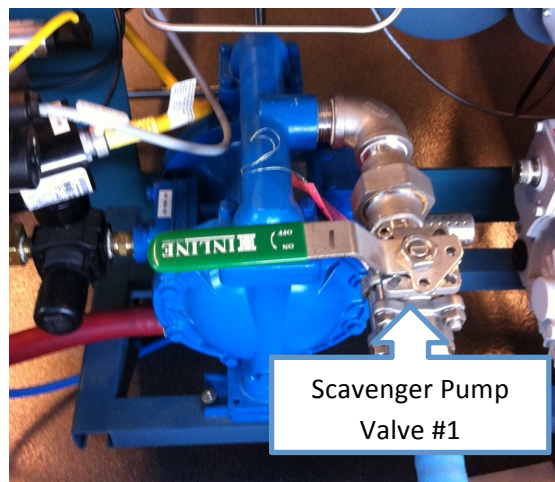

Figure 23: Scavenger Pump Valve #1
4. Slowly open Scavenger Pump Valve #1. NOTE: If you open the valve too fast water will splash everywhere. See figure 23